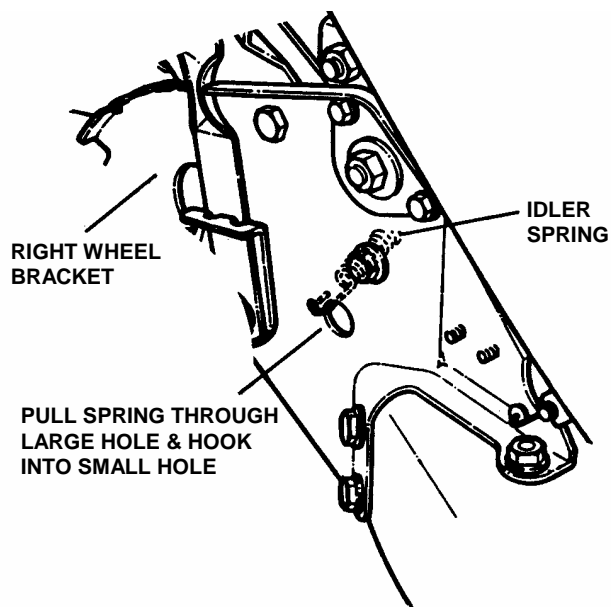

FIGURE 4.18
11. Use a stiff wire, such as a coat hanger, with a hook fashioned on one end to pull the hooked end of the idler spring through the large hole in the right wheel bracket. See Figure 4.18.